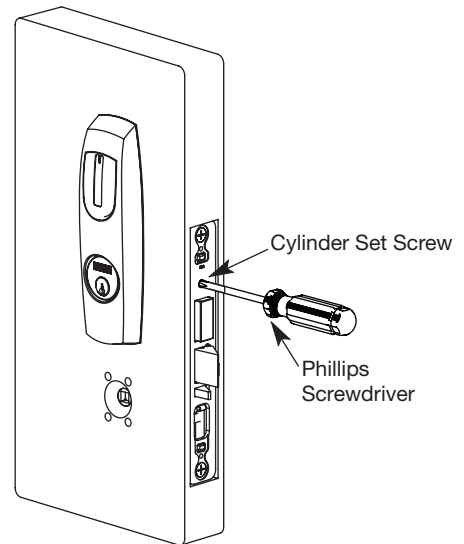

Fig. 8C
4. Tighten the cylinder clamp set screw to prevent unscrewing of the cylinder (Fig 8C).